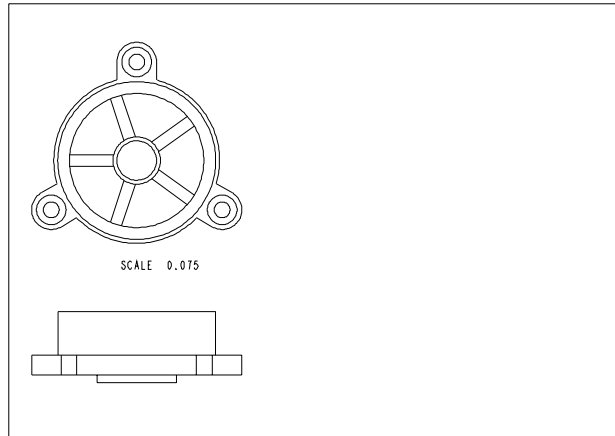

Figure 12-45 The top and front views
- Generate the top view, refer to Figure 12-45.
- Generate the front view taking the top view as the parent view, refer to Figure 12-45.
2. Specify the center point for the first view, which is closer to the top left corner of the sheet, as shown in Figure 12-45. As soon as you specify the center point, the **Drawing View** dialog box is displayed along with the preview of the drawing view in the default orientation. From the **Model view names** list box, select the **TOP** option and choose the **Apply** button. The default view is oriented as the top view.
2. Specify the center point for the front view below the top view, as shown in Figure 12-45.